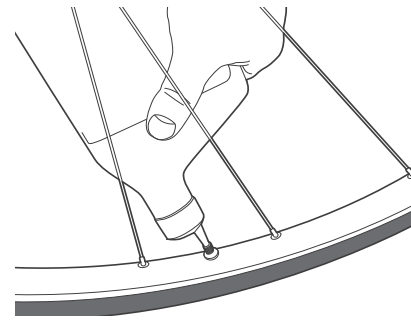

Figure 25. Pour sealant through the valve.
4. Pour the sealant through the valve (Figure 25). See the sealant container for the recommended amount.